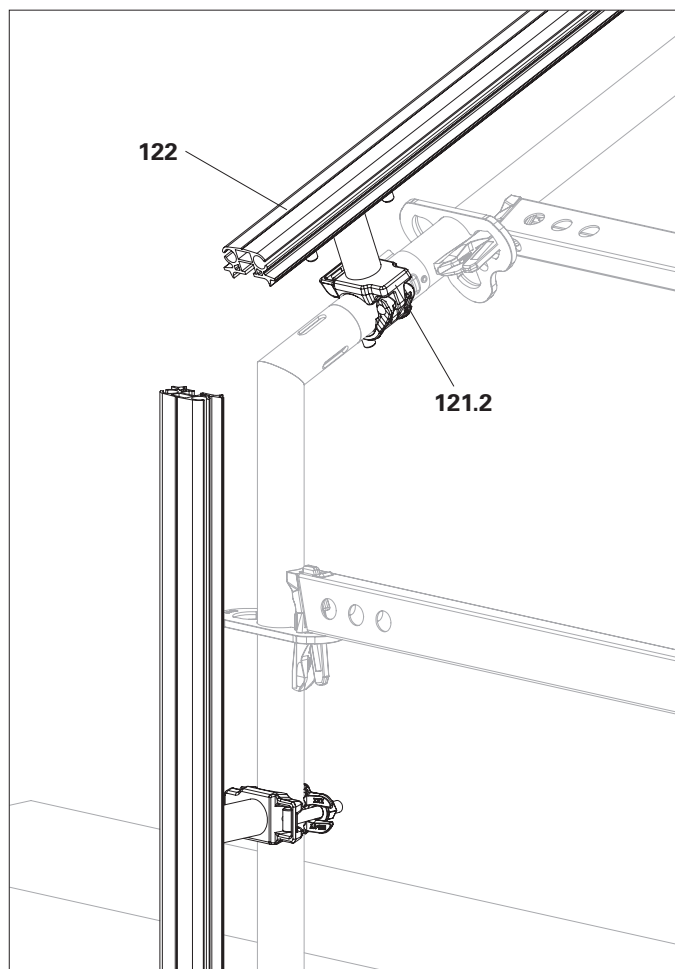

Fig. A14.02
3. Install pre-assembled keder tracks with the coupling side (**121.2**) of the keder connector on the respective vertical. (Fig. A14.02) For changes of direction, leave some space between the tracks at the joint for easier threading of the tarpaulin.